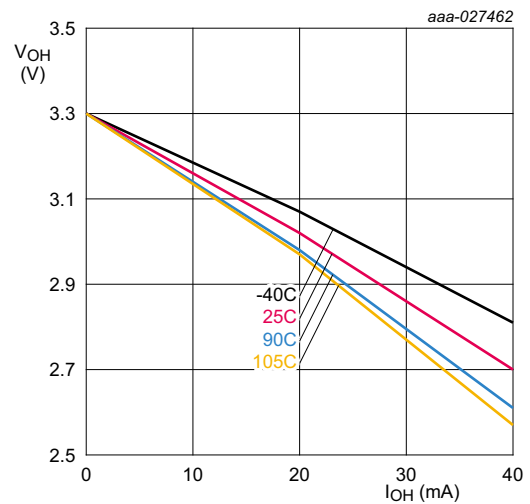

**Fig 22. Pin input/output current measurement**
- [6] Pull-up and pull-down currents are measured across the weak internal pull-up/pull-down resistors. See Figure 22.